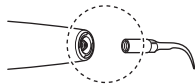

Figure 4
- 1) Ensure that there is no debris on the threads of the handpiece and tip. If debris is present, remove it by blowing air or using another device. (Figure 4)